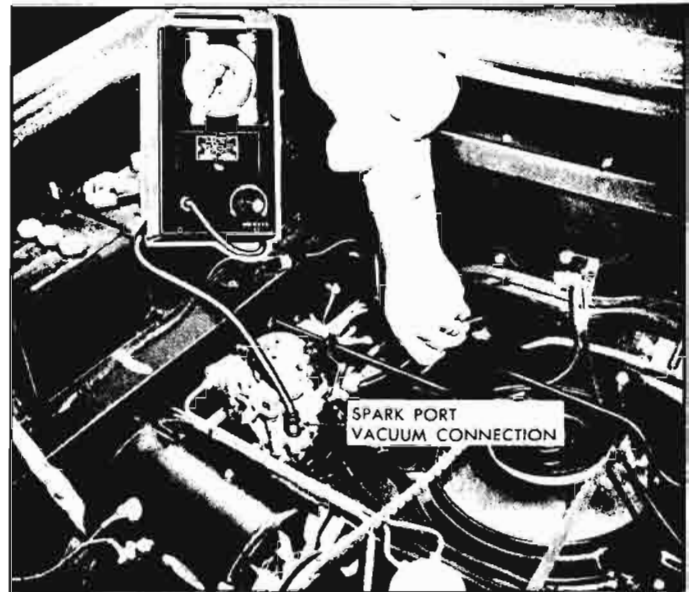

Fig. 7-11—Spark Port Vacuum Connections
- b. Inspect generator commutator and brushes for cleanliness and wear (fig. 7-11). The commutator should be cleaned if dirty and the brushes should be replaced if worn down to less than half their original length.
- a. Remove distributor vacuum advance hose from right hand carburetor and plastic cap from left hand carburetor spark port adapter tubes (fig. 7-11).